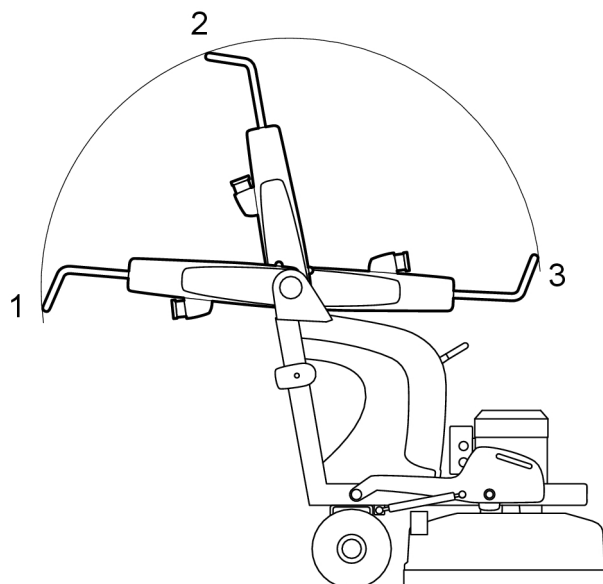

Figure 4-2. The handle's position
1. Set the handle to the rear position - see Figure 4-2, page 17
4. Set the handle to the working position, see Figure 4-2, page 17.